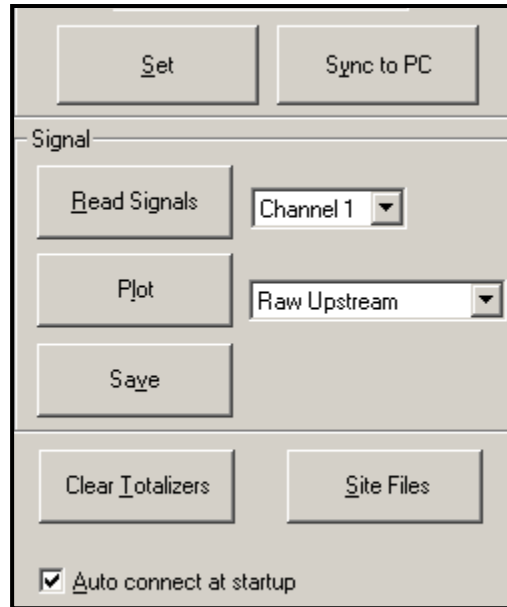

Figure 27: Active Signal Options
1. Click on the *Read Signals* button. (If the meter is a multi-channel instrument, open the Channel drop-down menu and click on the desired channel.) After a moment, the *Properties* window appears similar to Figure 27 below.